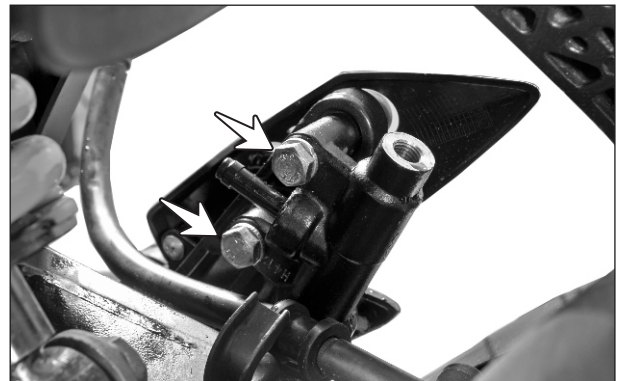

Fig. 6.125
- Remove the hexagonal screws (M6x40 - 2 nos.) along with punched washers. (Fig. 6.125)